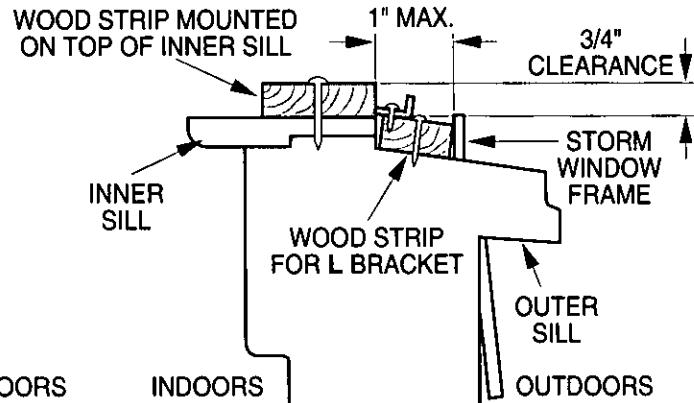

Fig. 5-2
2. If storm window presents interference, fasten a 2" wide wood strip to the inner window sill across the full width of the sill. The wood strip should be thick enough to raise the height of the window sill so that the unit can be installed without interference by the storm window frame. See Fig. 5-2. Top of wood strip should be approximately 3/4" higher than the storm window frame (STORM WINDOW FRAME) or wood strip (OUTDOORS) to help condensation to drain properly to the outside.
3. Install a second wood strip (approximately 6" long by 1 1/2" wide and same thickness as first strip) in the center of the outer sill flush against the back off the inner sill. This will raise the L bracket as shown Fig. 5-2.